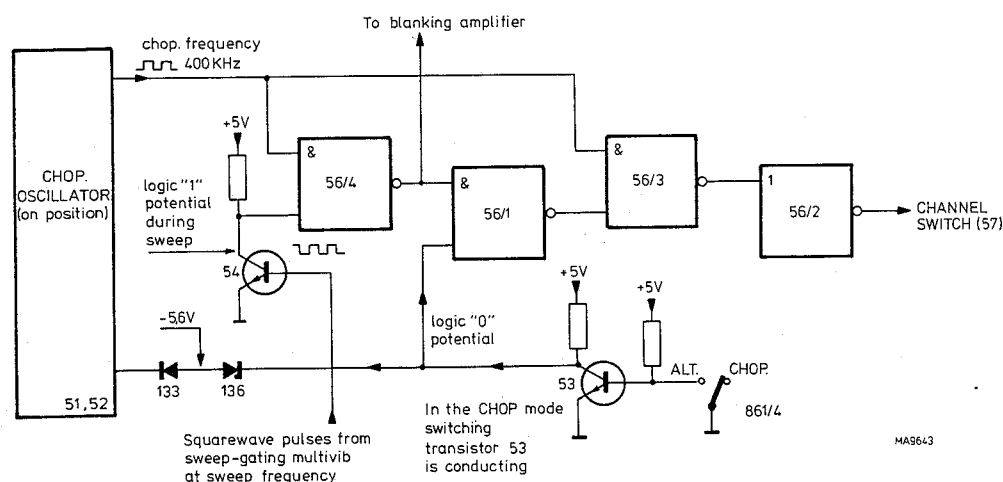

Fig. 3.6. Vertical channel switching – CHOP mode
- The CHOP pushbutton 861/4 disconnects the earth from the base of switching transistor 53, which then conducts. The collector voltage drops from 5 V to 0 V and, consequently, because of the zener diode voltage, the anode of diode 133 drops from  $-0.6$  V to  $-5.6$  V and switches on the CHOP oscillator 51, 52. The square wave voltage at the output of the CHOP oscillator (collector of transistor 52) operates the NAND gates to produce 400 kHz clock pulses for the channel switching flip-flop 57 (see Fig. 3.6).